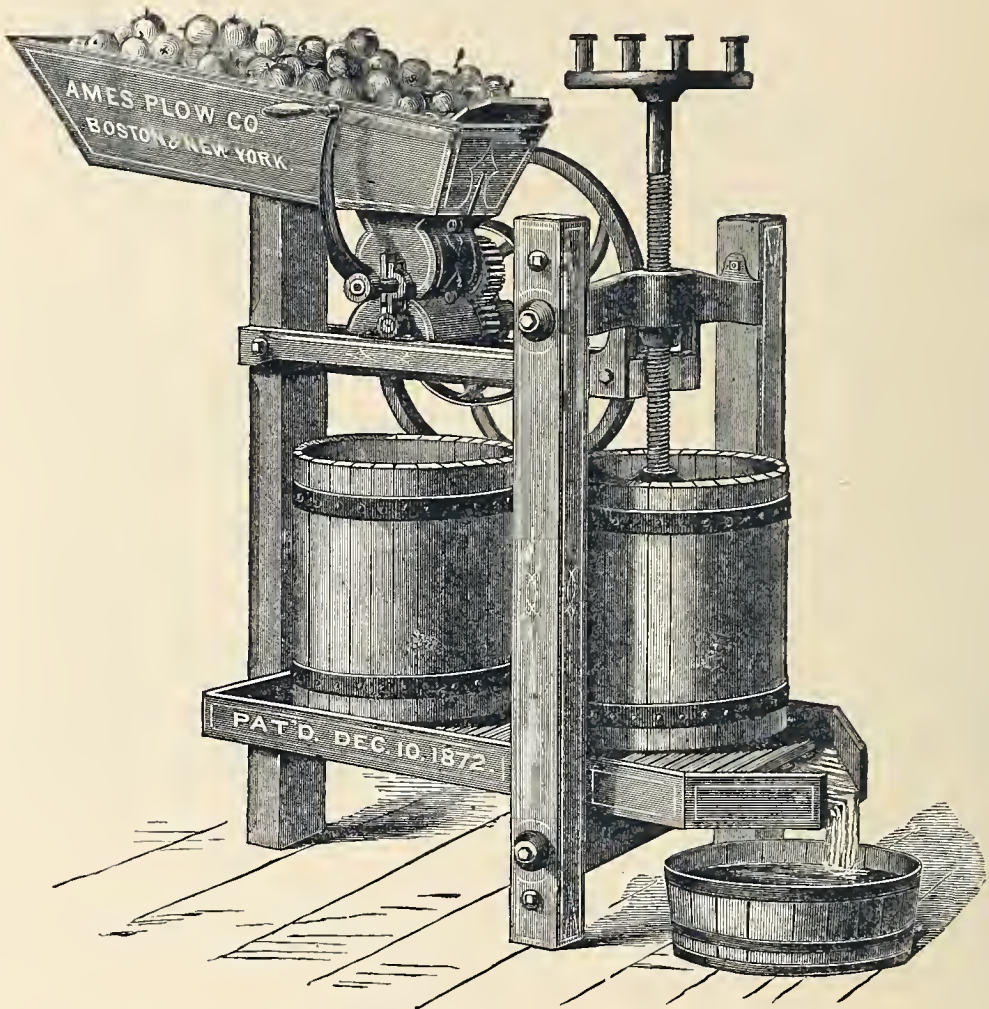

Fig. 418.—National Farmers' Cider-Mill, Plain Screw.
*The National Farmers' Cider and Wine Mills*, represented by *Figs. 418* and *B 423*, are constructed upon new principles out from the beaten track of previous inventions, avoiding the defects existing in all other mills for the purpose.
The FARMERS' MILLS are made with Plain Screw, *Fig. 418*, and Geared Screw, *Fig. 423*. By the use of the Geared Screw more pressure is brought to bear on the contents of the curb and this is of course a great advantage, and the extra cost of mills rigged in this way is comparatively small.